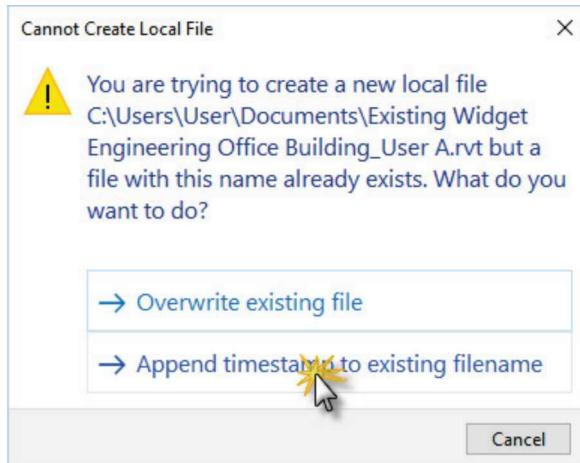

FIGURE 16-4.17 Cannot Create Local File dialog
40. **USER A**: Click **Append timestamp to existing filename** (Figure 16-4.17).